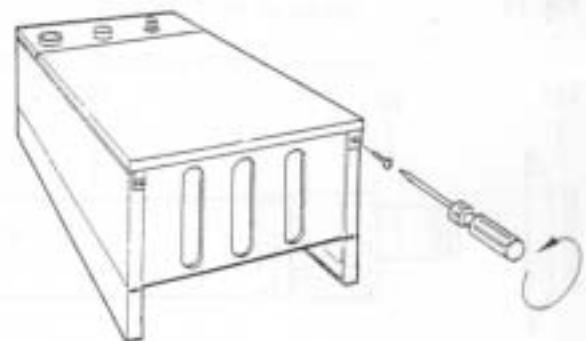

Fig. 19
- 54.1 - Remove the 2 screws that secure the upper part of the front panel of the casing (Fig. 19).